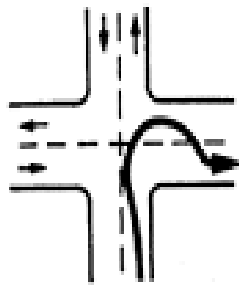

Figure 1-4
- If you are driving a truck or bus that cannot make the right turn without swinging into another lane, turn wide as you complete the turn. Keep the rear of your vehicle close to the curb. This will stop other drivers from passing you on the right. See Figure 1-4, page 23.